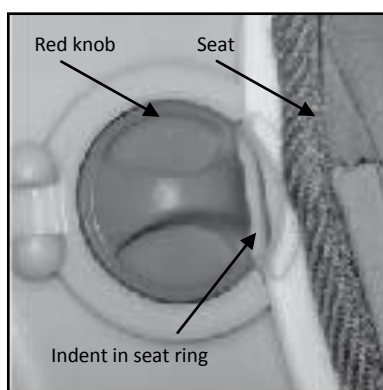

Figure 20
- Lift and rotate the red knob in position, as per **Figure 20**.